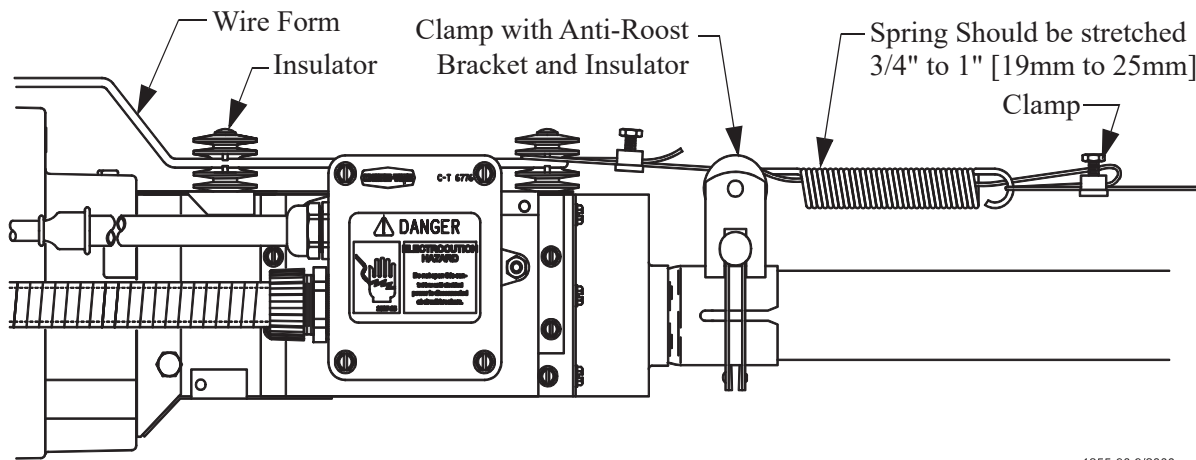

Figure 55. Anti-Roost Installation at the Control Unit
14. At the control unit, after clamping the cable to the spring, cut the cable about 8" to 10" [200 to 250 mm] longer than necessary. Feed the end of the cable through the center of the spring, around the first insulator on the control unit, and clamp the cable using the cable clamp supplied with the control unit. (See Figure 55). Install the wire form on the control unit insulators. Be sure the guard snaps into the retainers molded into the insulators. (See Figure 55).